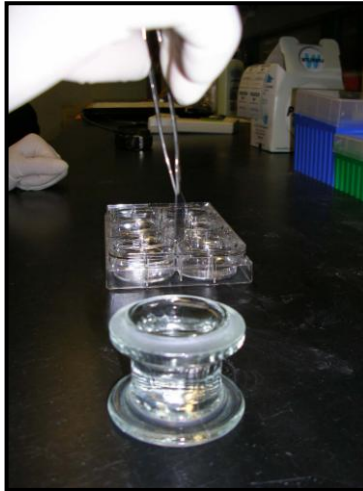

Figure 2. Coverglass staining jar.
2. Using a small pair of broad-tipped forceps, place the coverslips carefully in the Antigen Retrieval Buffer in the coverglass staining jar, making note of which side of the coverslips the cells are on (Figure 2).